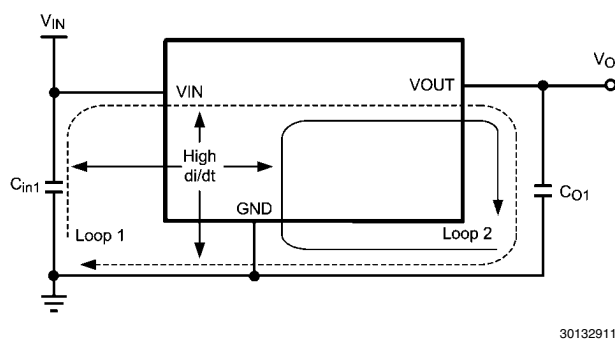

FIGURE 3.
From an EMI reduction standpoint, it is imperative to minimize the high di/dt paths during PC board layout as shown in Figure 3 above. The high current loops that do not overlap have high di/dt content that will cause observable high frequency noise on the output pin if the input capacitor ( $C_{in1}$ ) is placed at a distance away from the LMZ22005. Therefore place  $C_{in1}$  as close as possible to the LMZ22005  $V_{IN}$  and  $PGND$  exposed pad. This will minimize the high di/dt area and reduce radiated EMI. Additionally, grounding for both the input and output capacitor should consist of a localized top side plane that connects to the  $PGND$  exposed pad (EP).